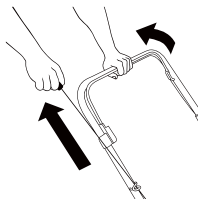

Fig.6C
3. To start the engine using the starter handle, hold the brake control bar down to the upper handle. (Fig. 6C)
4. Firmly hold the brake control bar. Pull the starter handle slowly until resistance is felt, then pull rapidly. Return it slowly to the loop after engine starts.(Fig. 6C)